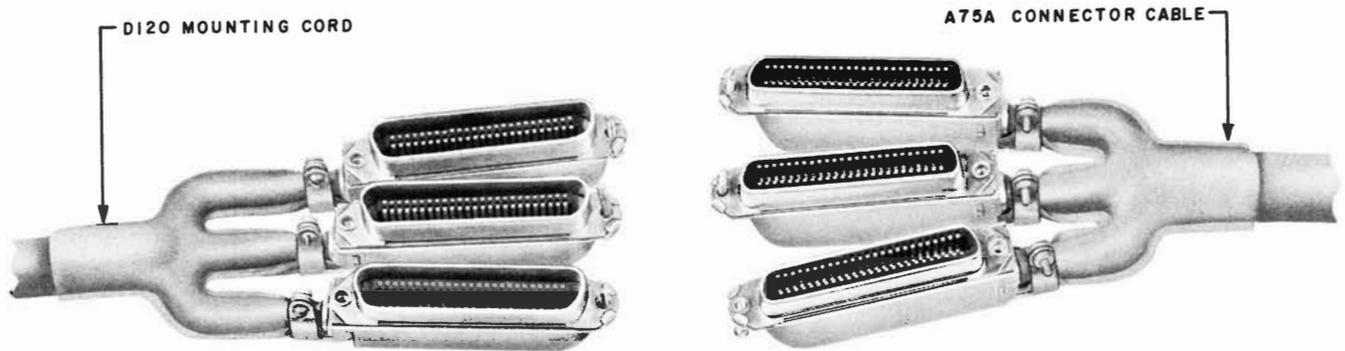

Fig. 12 — Mounting Cord and Connector Cable
**3.11** Connector cables A75A or A100A are used between the set mounting cord and key system apparatus cabinet or distribution terminal. Cord plug and running cable receptacle (Fig. 12 and 13) can be housed in a Wiremold 2857T terminal box (see section entitled Overfloor Ducts, Identification and Installation).